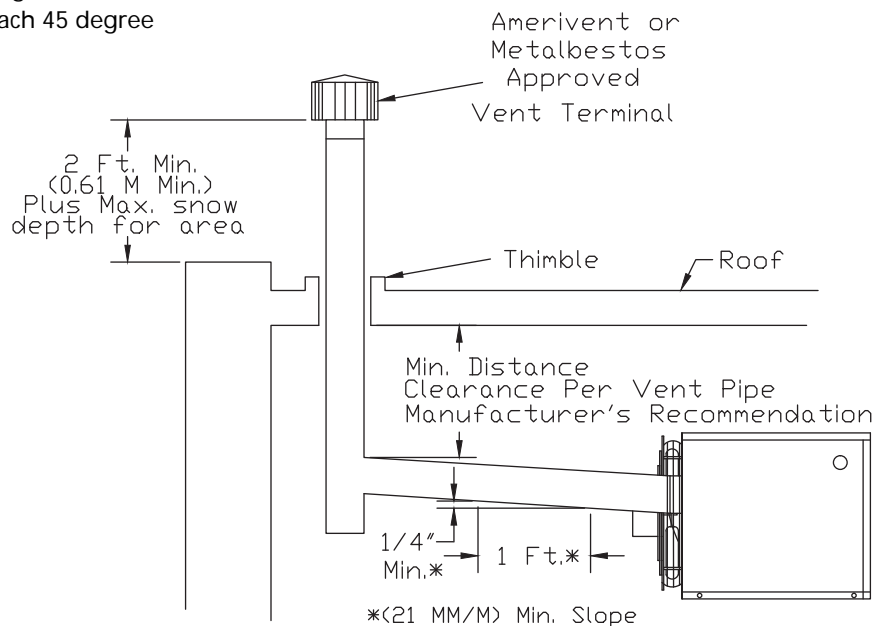

Figure 8 – Vertically Vented, Category III
VERTICALLY VENTED UNIT HEATERS (CATEGORY III) FIGURES 8, 8B & 9B
4. The top of the vent pipe should extend at least 2 feet (0.61m) above the highest point on the roof. Consideration should be made for anticipated snow depth. Install an Amerivent Americap or Metalbestos vent cap over the vent opening. Slope horizontal runs upward from the gas unit heater at least 1/4-inch per foot (21mm/m) minimum. Horizontal portions of the venting system shall be supported at minimum intervals of 4 feet (1.2m) (in Canada, support at 3 feet (1m) minimum intervals). (See Figures 8, 8B and 9B)